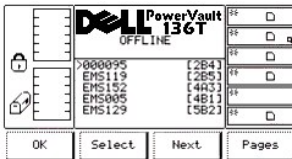

Figure 50. Command > Mailbox > Export > Export Select Dialog
- 1 If the button beneath the **Select** softkey is pressed, the selection cursor is displayed next to the first item in the item list. See Figure 50.